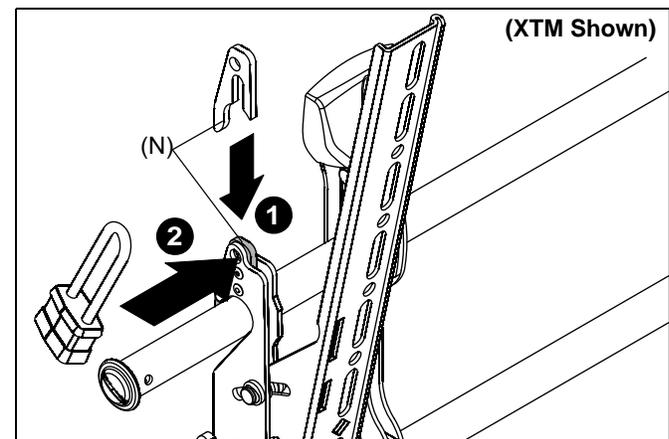

Figure 12
1. Add optional security bracket (N) to the mount. (See Figure 12)